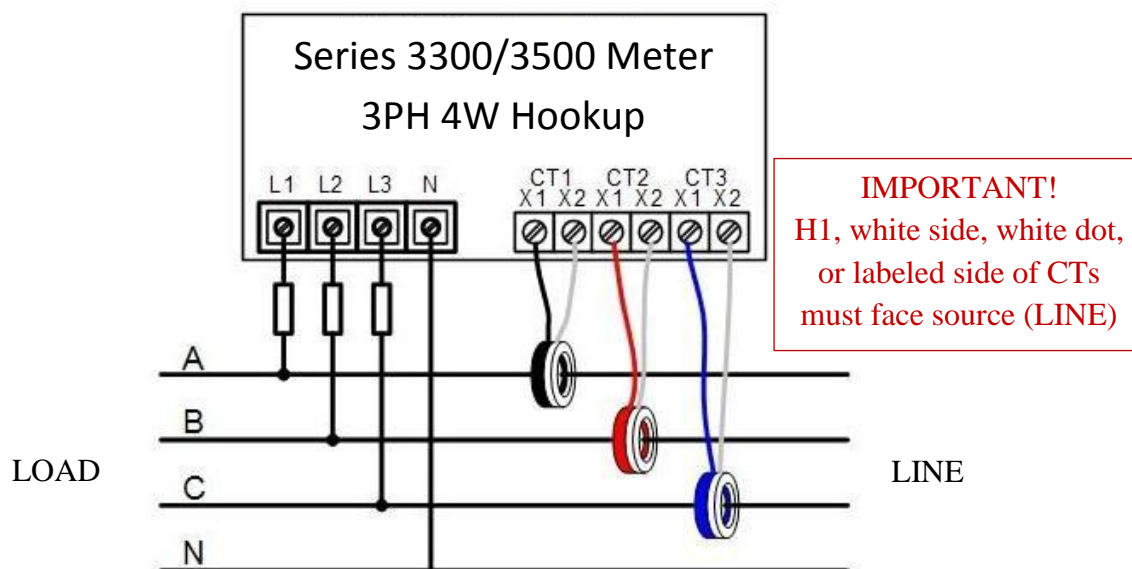

Figure 8: 3-phase 4-wire Wye hookup diagram
2. Connect 600 V min. insulated wiring for Line voltages and Neutral to the appropriate locations in the breaker panel, in accordance with all national and local electrical codes; see Hookup Diagrams in Figures 8 – 11 below for correct wiring information.
- Current and voltage inputs must be installed 'in phase' (e.g. CT1 on Line 1, CT2 on Line 2, CT3 on Line 3) and oriented correctly as shown in Hookup Diagrams in Figures 8 through 11.
4. Connect the CT leads to the appropriate terminals; see Hookup Diagrams in figures 8 through 11 below for correct CT orientations and connections. The CT terminal block is removable to make wire connections easier; see Figure 5. After securing CT wires to the appropriate terminals slide terminal block up into header until fully seated.
6. For Split Core CTs: Remove two thumb nuts (Figure 6) and remove section from CT. With power to the conductors turned off, place the 3-sided section of the CT around the appropriate conductor while ensuring that white label, white dot or H1 faces Line (source). Reassemble the CT while ensuring that the white hash marks align (figure 5) and reinstall thumb nuts. Repeat for remaining conductors for two or three phase applications, as shown in Figures 8 through 11.
7. For Solid Core CTs: With power turned off, disconnect each monitored conductor one at a time and slide on appropriate CT, ensuring the CT is correctly oriented as shown in Figures 8 through 11. Reconnect the conductors.
Hookup Diagrams, Figures 8 through 11
condition. Refer to Hookup Diagrams in Figures 8 through 11 for correct wiring and CT orientations.
- c. Power Factor Screens – Except in rare circumstances where predominantly inductive loads are metered, Power Factor values should have an absolute value greater than 0.6. A lower value indicates CTs installed on the wrong phase, backwards, or incorrectly connected at the meter, or voltage connections at the meter could be cross-phased. If PF is lower than 0.6 recheck CT placements and orientations and CT and voltage connections at the meter against the appropriate Hookup Diagram shown in Figures 8 through 11.